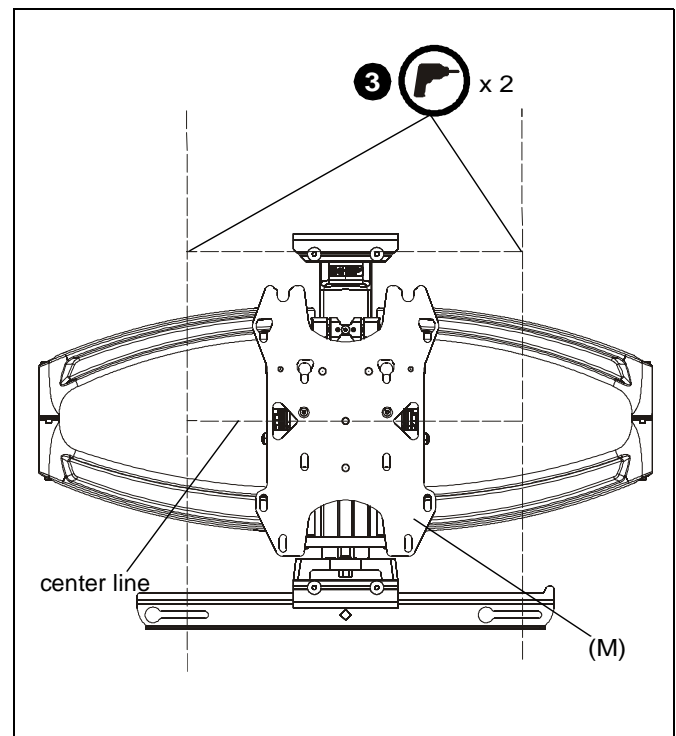

Figure 6
3. Drill two 3/8" holes 16" apart and along the line drawn in the Step 2. (See Figure 6)